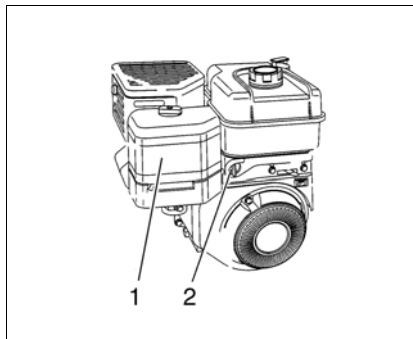

Fig.21 Air cleaner
- Remove drain hose (Fig. 21/1) from holding clamp and lead it downwards through the vehicle frame.
- Close drain hose (Fig. 21/1) by plug and protect with clamp.
- Fasten drain hose (Fig. 21/1) at holding clamp.